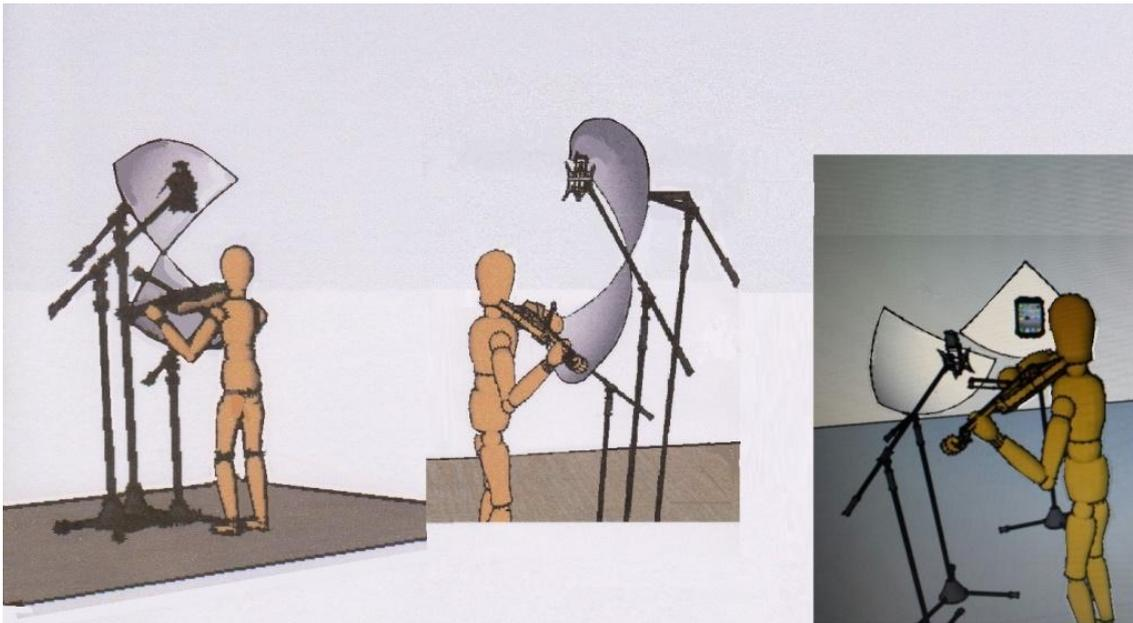
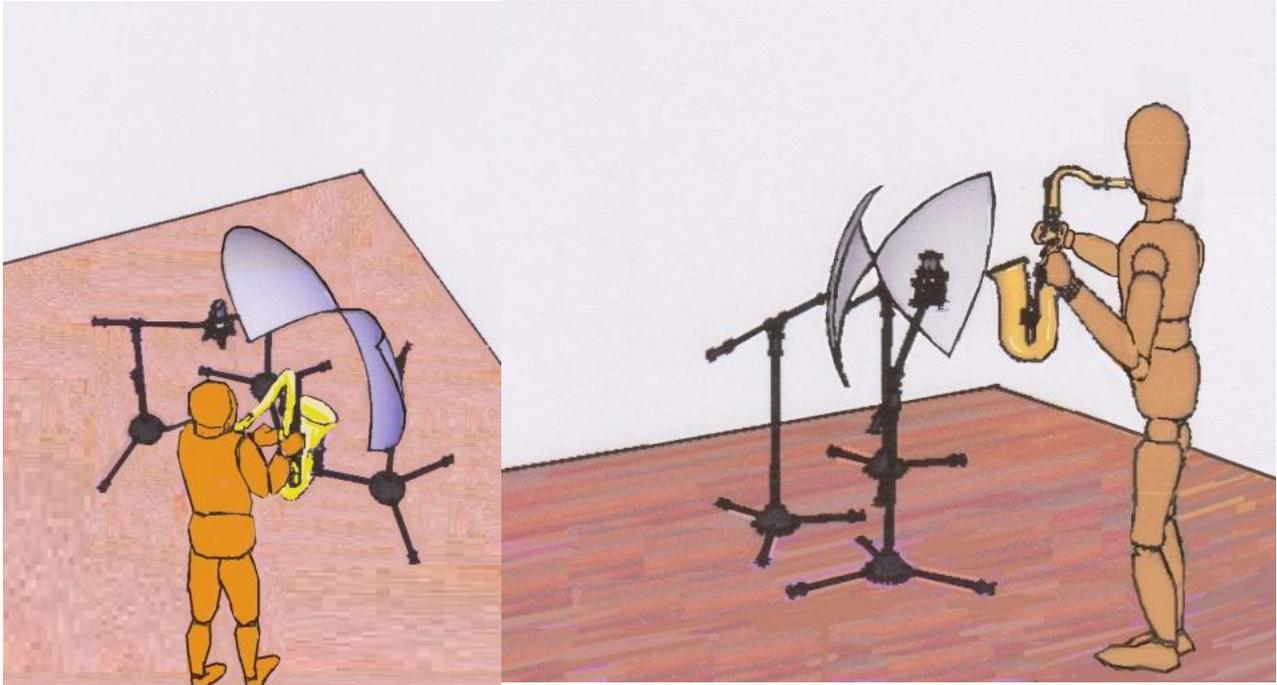

Fig. 4
Fig. 5
3. **For the violin, or similar instruments that involve a certain movement of the artist**, so that the sounds are picked up and amplified by a microphone, it is preferable to place two Binels either horizontally, or vertically, with the special care to position the two Binel to form a continuous wedge of curvature on the outside, placing the instrument on the ovoid focus of the first Binel, while the mono or stereo microphone is placed on the ovoid focus of the second Binel. (Fig. 4) This positioning slightly changes the ovoid shape of the two acoustic foci which tend to become spherical but always of good size. This allows the sound to be transmitted directly from one focus to another simultaneously.
4. **For instruments in which the point of emission is very far from your ears - more than 40 cm -, such as the trumpet, the saxophone, the cello, the double bass, etc.**, it is always necessary to have 2 Binels carefully positioned to form outside a continuous curve (Fig. 5), and as already seen in Fig. 4.